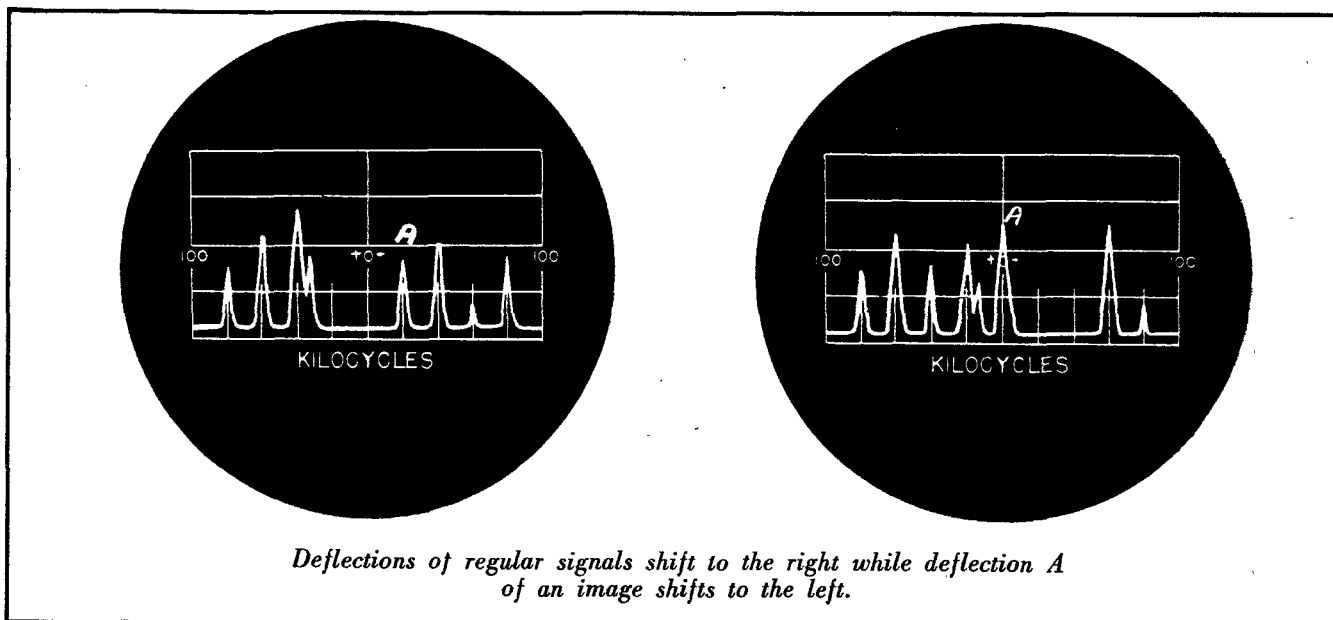

Figure 12. Direction of Travel of Images Against Regular Signals as Receiver is Tuned
(11) *Images.* If the receiver allows "images" to pass (due to poor image rejection of the R.F. circuits), these will be distinguishable by the fact that they move in an *opposite* direction from normal signals, when the companion receiver is being tuned. Such images are most likely to appear on the higher frequency ranges of the receiver. Refer to Figure 12.